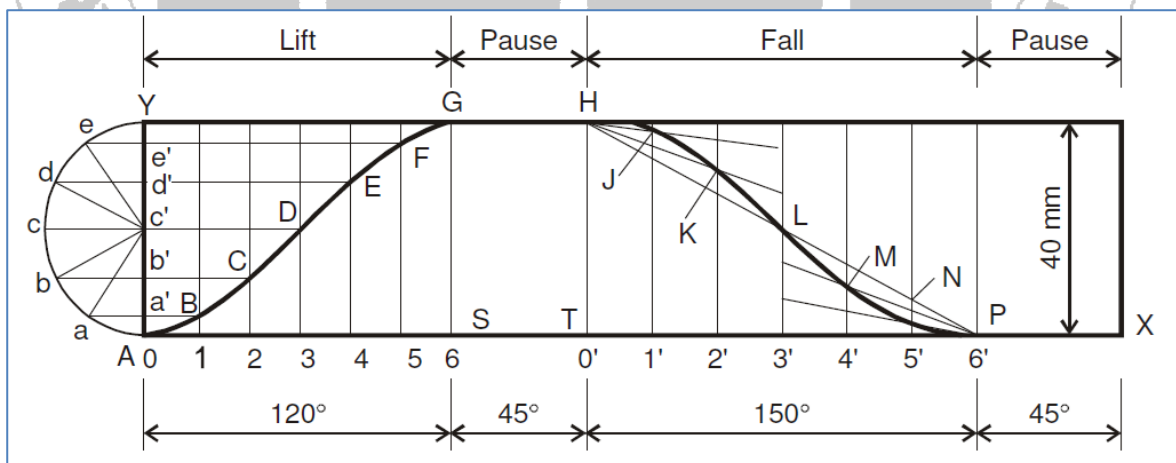

Fig.10.3 Displacement diagram (Problem No.2)
7. The points a to e on semi-circle are projected across the corresponding positions of the cam angles as shown in Fig.10.3